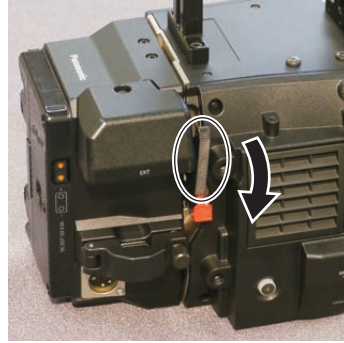

Fig. 2
- 1 Push down the recording module release lever (Fig. 2) while pulling up the lock knob (red) of the recording module release lever (Fig. 1).